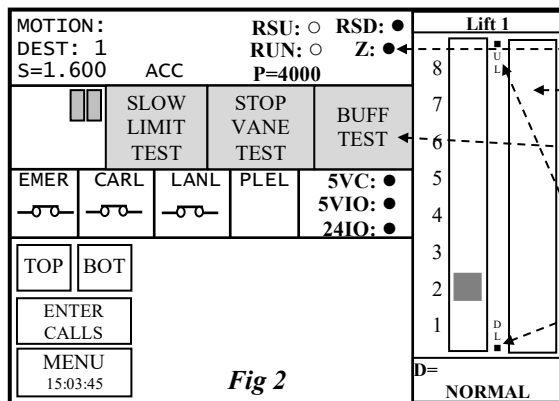

Fig 2
A set of dedicated buttons are available to assist in the testing of the slowing limits, stopping limits and lift buffers (i.e. buffer test). To make the buttons appear press and hold the shaft area of the screen for 5 Seconds. Once the buttons appear they need to be held under “constant pressure” to invoke the function. If the buttons are not pressed for a period of 20 minutes they will disappear. Also to clear the buttons, simply press MENU and press LIFT/GROUP VIEWER to re initialise the lift viewer. (see Fig 2).
- Also ensure the signal from the **Door Zone Sensor** can be seen in the lift controller. This can be achieved by pressing MAIN MENU then LIFT / GROUP VIEWER which will display the screen as Fig 2 below: